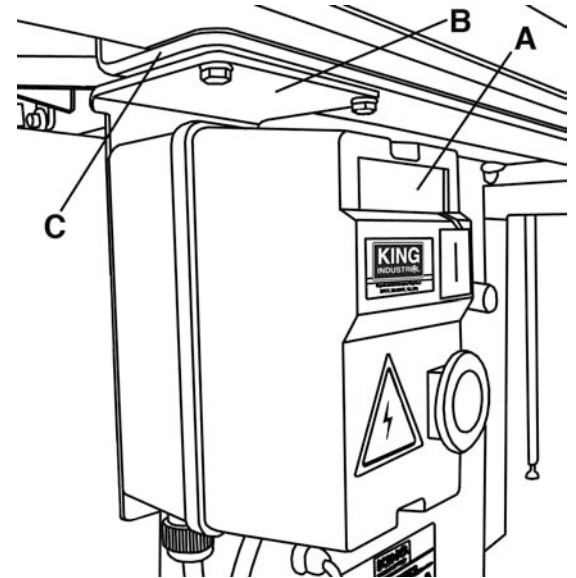

FIGURE 5
If your King table saw comes with a magnetic safety switch (A) Fig.5 and is attached to a mounting bracket (B), mount the mounting bracket underneath the left end of the front rail (C) using 2 hex. bolts and washers.